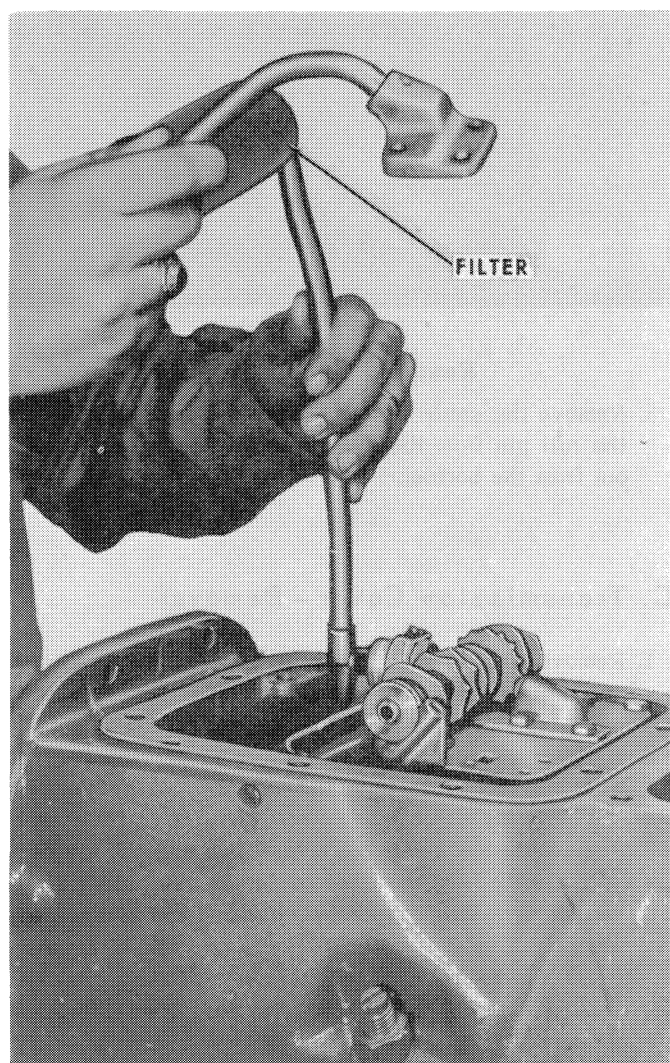

Figure 33
3. Lift out the manifold and filter as an assembly by lifting and threading the lower tube from around the “C” ring gear assembly. Refer to Figure 33.